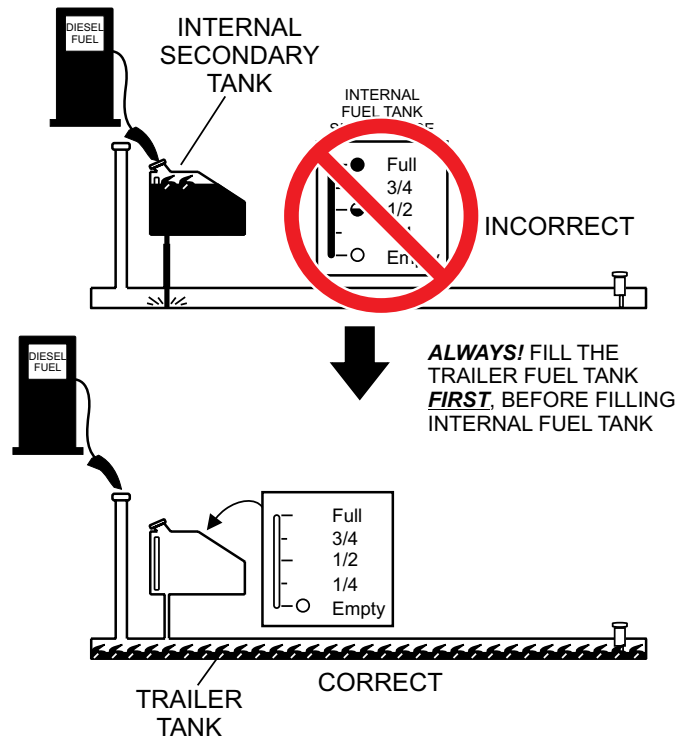

Figure 31. Fueling Filling Order
2. **Trailer Fuel Tank First** – The trailer fuel tank is the primary fuel tank and holds a larger capacity of fuel. The fuel in the trailer will be filtered and sent to the engine. **ALWAYS** fill trailer fuel tank (Figure 31) first.